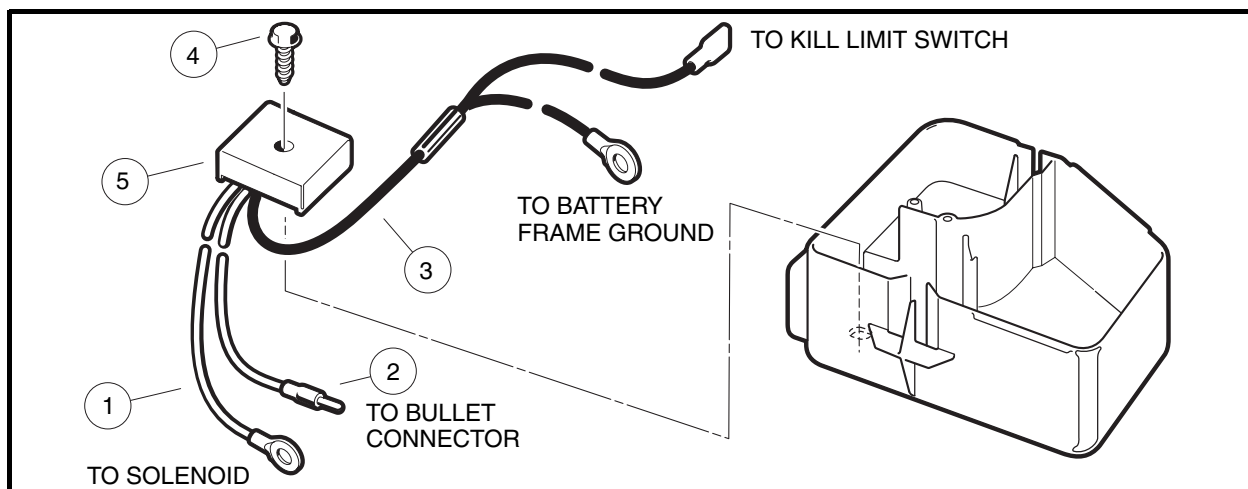

Figure 12-15 Voltage Regulator
3. Disconnect the voltage regulator red wire (1) at the large post on the solenoid and disconnect the yellow wire (2) at the bullet connector (**Figure 12-15, Page 12-12**).
4. Disconnect the voltage regulator black ground wire (3) at the battery frame ground and also from the normally open (NO) terminal of the kill limit switch in the component box (**Figure 12-15, Page 12-12**).
5. Remove the voltage regulator mounting screw (4) and remove the voltage regulator (5).
1. Position the voltage regulator (5) in the electrical component box and install the mounting screw (4) (**Figure 12-15, Page 12-12**). Tighten screw to 23 in-lb (2.6 N·m).
2. Connect voltage regulator red wire (1) to the solenoid, and connect the yellow wire (2) bullet connector.
3. Connect the black ground wire (3) to the battery frame connection bolt (ring terminal) and also to the normally open (NO) terminal (slip on) of the kill limit switch (**Figure 12-15, Page 12-12**). Install a new wire tie.